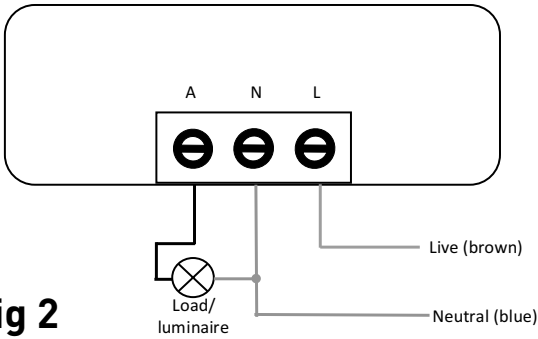

Fig 2
- Connect the sensor to the luminaire and mains supply (via terminal connector) ensuring the correct polarity is observed. See Fig 2 for the wiring diagram (Live (brown), Neutral (blue) and Switched Live (A)